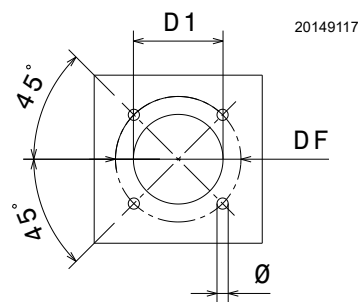

Fig. 15
Pierce the closing plate of the combustion chamber, as in Fig. 15. The position of the threaded holes can be marked using the thermal insulation screen supplied with the burner.
- Fit the entire burner onto the boiler hole prepared previously (Fig. 15), and fasten with the screws supplied.